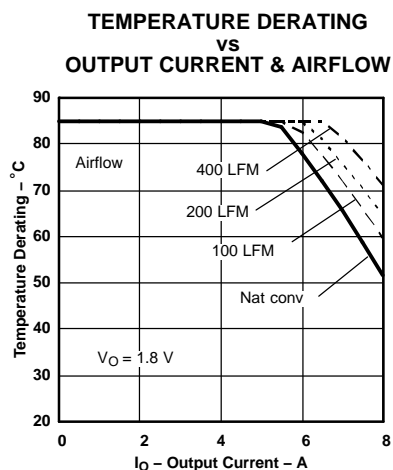
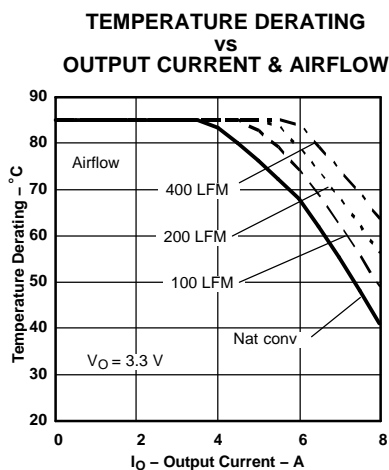
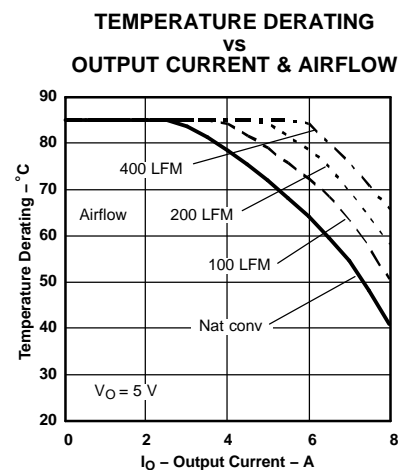

Figure 4.
Figure 5.
Figure 6.
- (9) The temperature derating curves represent the conditions at which internal components are at or below the manufacturer's maximum operating temperatures. Derating limits apply to modules soldered directly to a 100 mm x 100 mm double-sided PCB with 2 oz. copper. Applies to Figure 4, Figure 5, and Figure 6.